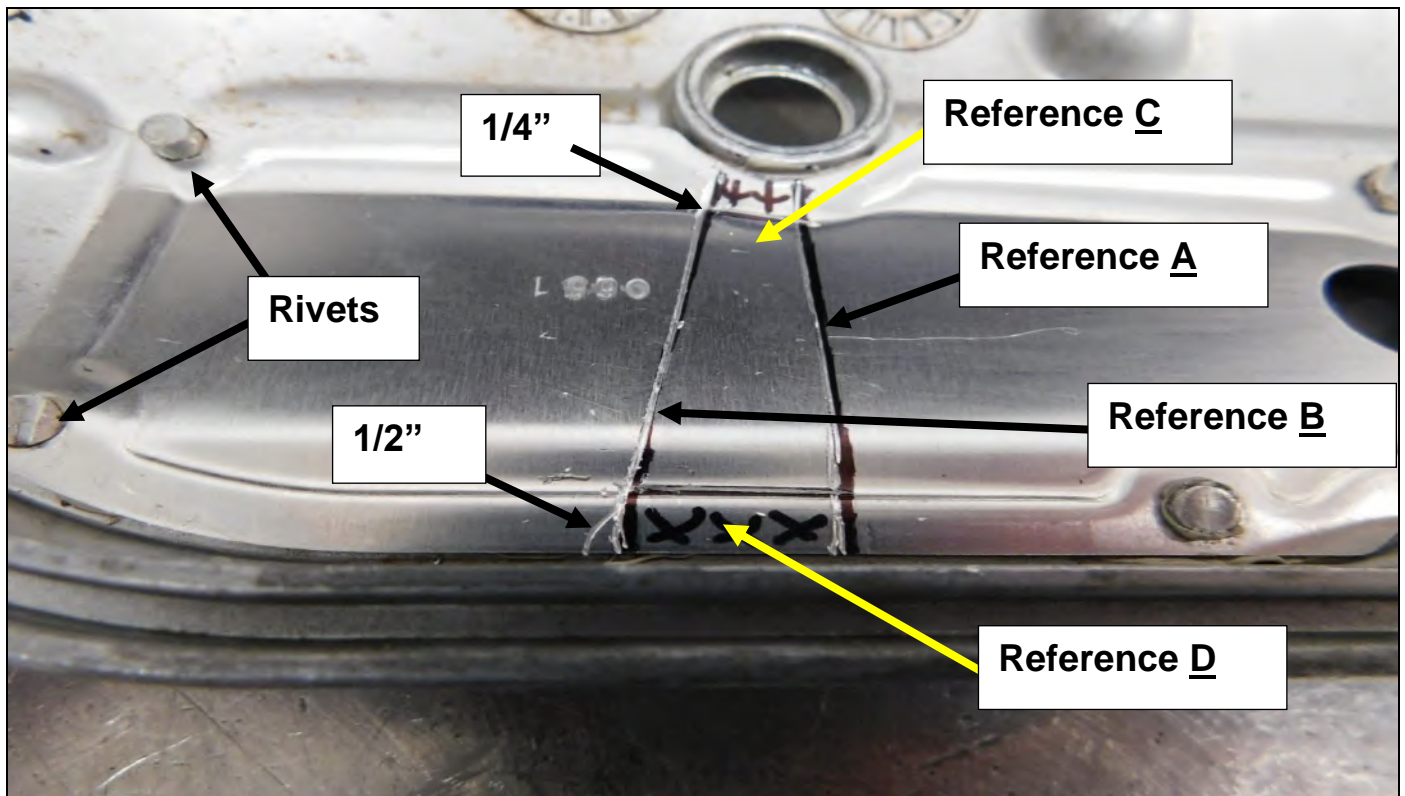

Figure 8
1. Measure from the edge of the baffle plate towards the center of the valve cover and make a reference mark at 1/8" past center of the bolt hole in the top of the valve cover. Reference mark (**A** – **Figure 8**).
2. Measure from the reference line **A** back towards the edge of the baffle plate 1/4" and make a mark on the top edge of the baffle plate closest to the bolt hole (**Figure 8**).